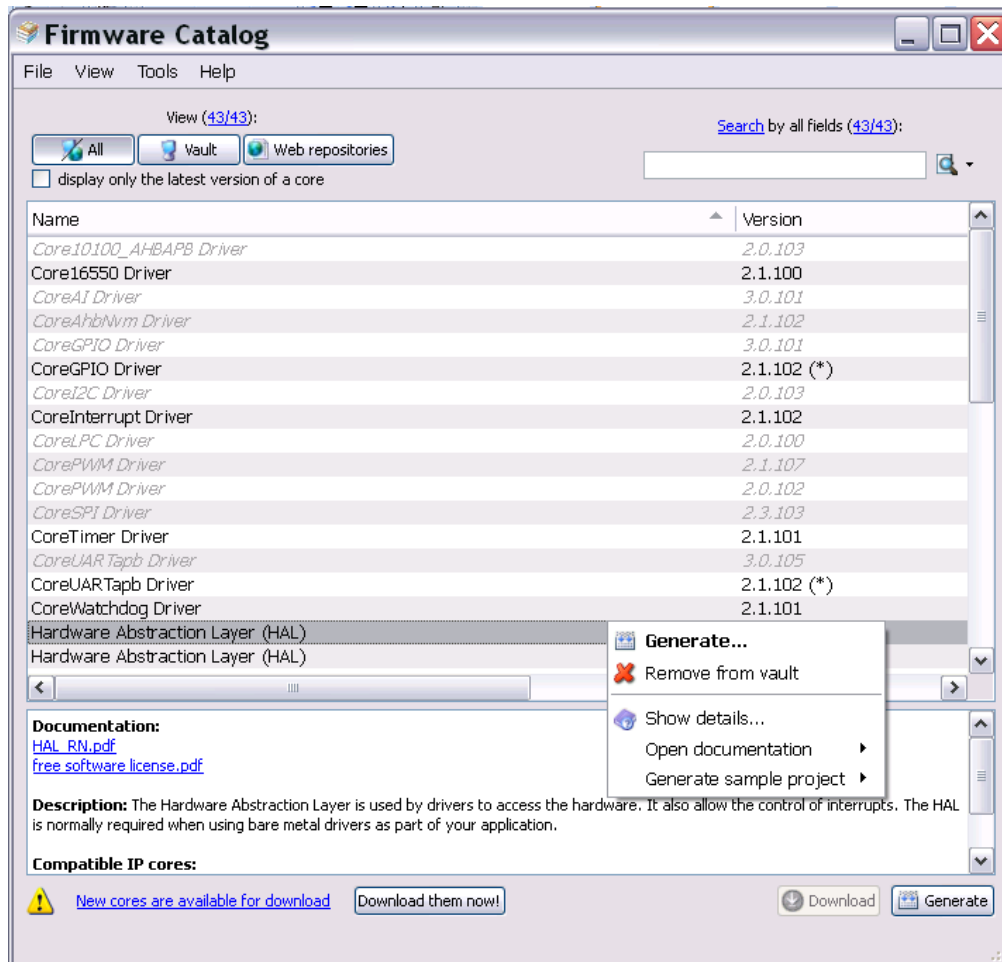

Figure 12 Generate Driver
- To generate the driver, right-click the required driver and click **Generate**, as shown in Figure 12.